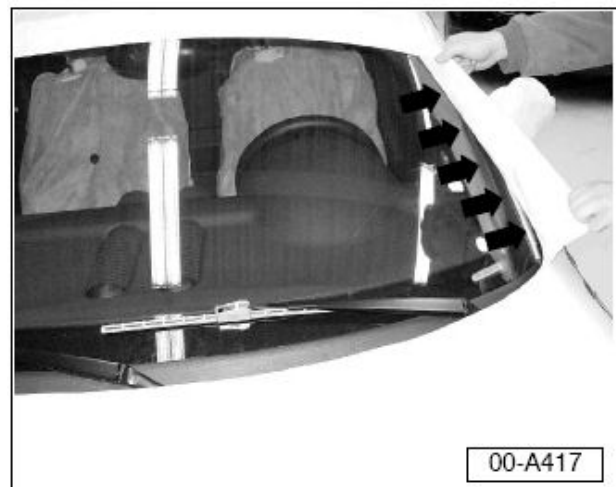

Figure 7. Remove tape from windshield.
7. Remove tape from area around windshield (Figure 7).